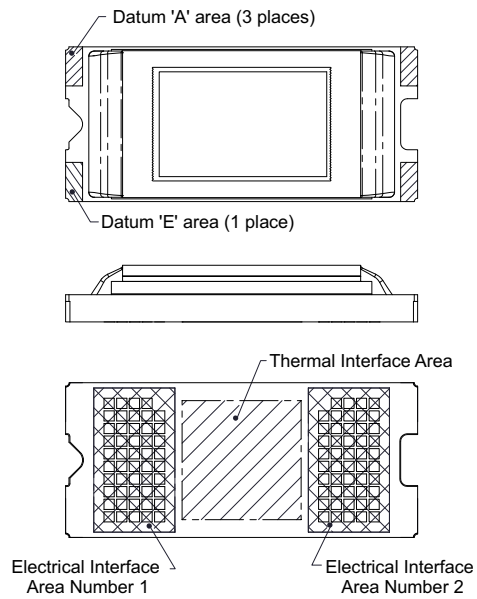

图 7-4. System Interface Loads for FQD
(1) See 节 13 for diagrams.
(2) See 图 7-4 for diagrams.
(3) See Mounting Concepts DLP4500FQE.
(4) See Mounting Concepts DLP4500FQD.